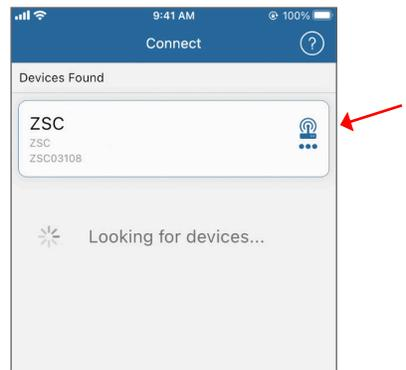

Figure 11 ZENTRA Utility window
6. Press the ZSC (Figure 11) to establish a Bluetooth connection.